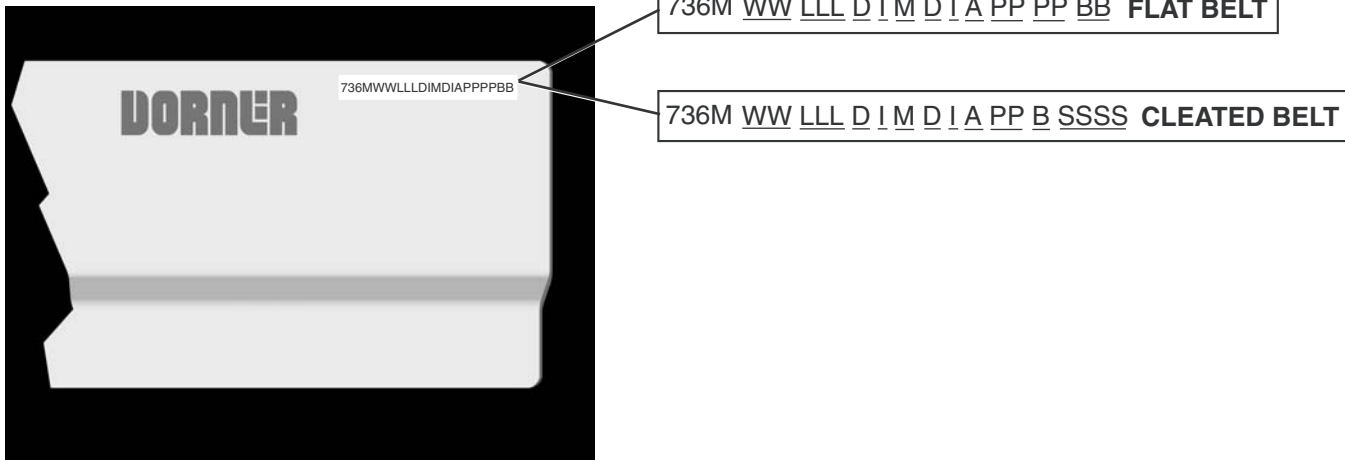

Figure 63
Refer to model number on the conveyor frame (Figure 63). From the model number determine the conveyor width (WW), length (LLL), drive/tail types (A) and belt type (BB). Use data to configure belt part number as indicated below. *Add "V" for v-guided belts.
Refer to model number on the conveyor frame (Figure 63). From the model number determine the conveyor width (WW), length (LLL), cleat type (C) and cleat spacing (SSSS). Use data to configure belt part number as indicated below. *Add "V" for v-guided belts.